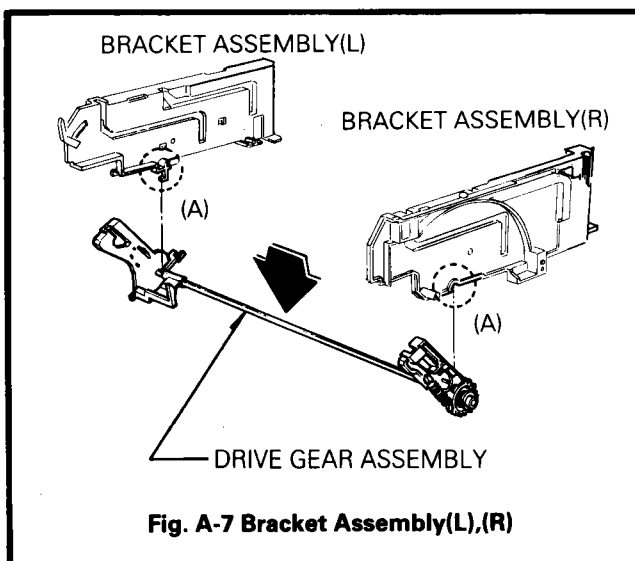

Fig. A-7 Bracket Assembly(L),(R)
7. Bracket Assembly(L),(R)(Fig. A-7)